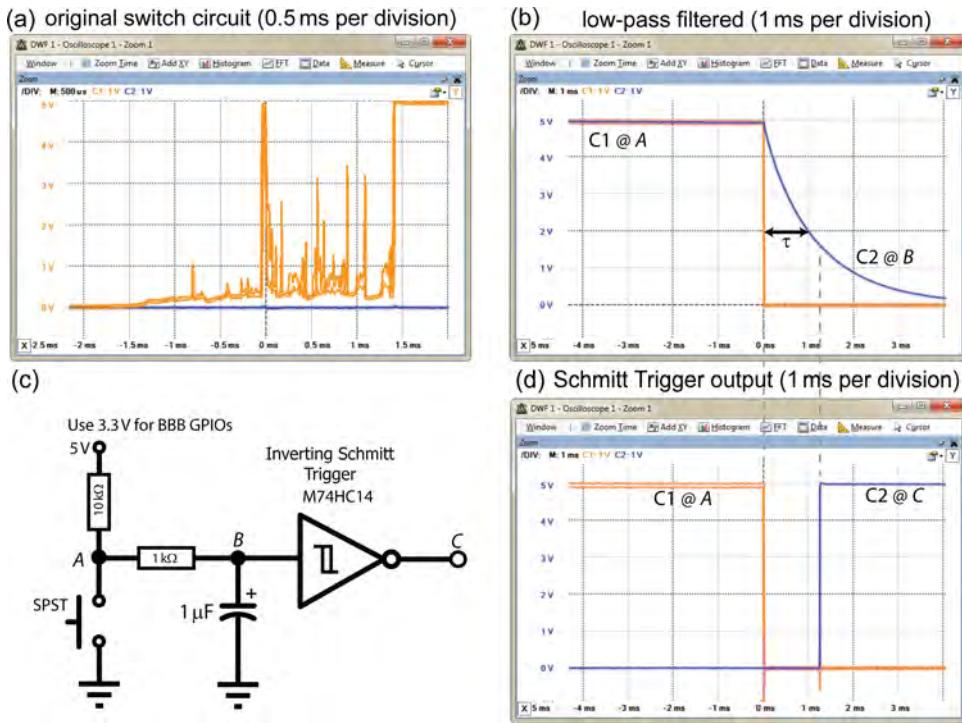

Figure 4-20: (a) Switch bouncing with no components other than the switch and 10k Ω resistor
Figure 4-20(a) illustrates the problem in action using the rising/falling-edge trigger condition of the Analog Discovery Oscilloscope. A momentary push button is placed in a simple series circuit with a $10\text{k}\Omega$ resistor and the voltage is measured across the resistor. When the switch hits the contact, the output is suddenly high, but the switch then bounces back from the contact and the voltage falls down again. After about 2–3ms (or longer) it has almost fully settled. Unfortunately, this small bounce can lead to false inputs to a digital circuit. For example, if the threshold were 3V, this may be read in as 101010101.
- A low-pass filter can be added in the form of a resistor-capacitor circuit as illustrated in Figure 4-20(c) using a $1\mu\text{F}$ capacitor. Unfortunately this leads to delay in the input. If you examine the time base, it takes about 2ms before the input reaches 1V. Also, bounce conditions can delay this further. These values are chosen using the *RC time constant* $\tau = R \times C$, so $\tau (\text{s}) = 1,000\Omega \times 10^{-6}\text{F} = 1\text{ms}$, which is the time taken to charge a capacitor to $\sim 63.2\%$ or discharge it to $\sim 36.8\%$. This value is marked on Figure 4-20(b).
- For momentary push button switches (SPSTs), a Schmitt trigger (74HC14N), which is discussed in the next section, can be used with an RC low-pass filter as in Figure 4-20(c).
The Schmitt trigger in Figure 4-20(c) exhibits the same type of behavior. The V_{T+} for the M74HC14 Schmitt trigger is 2.9V and the V_{T-} is 0.93V when running at a 5V input, which means that a rising input voltage has to reach 2.9V before the output changes high, and a falling input voltage has to drop to 0.93V before the output changes low. Any bounce in the signal within this range is simply ignored. The low-pass filter reduces the possibility of high-frequency bounces. The response is presented in Figure 4-20(d). Note that the time base is 1ms per division, illustrating how “clean” the output signal is. The configuration uses a pull-up resistor, the need for which is discussed shortly.